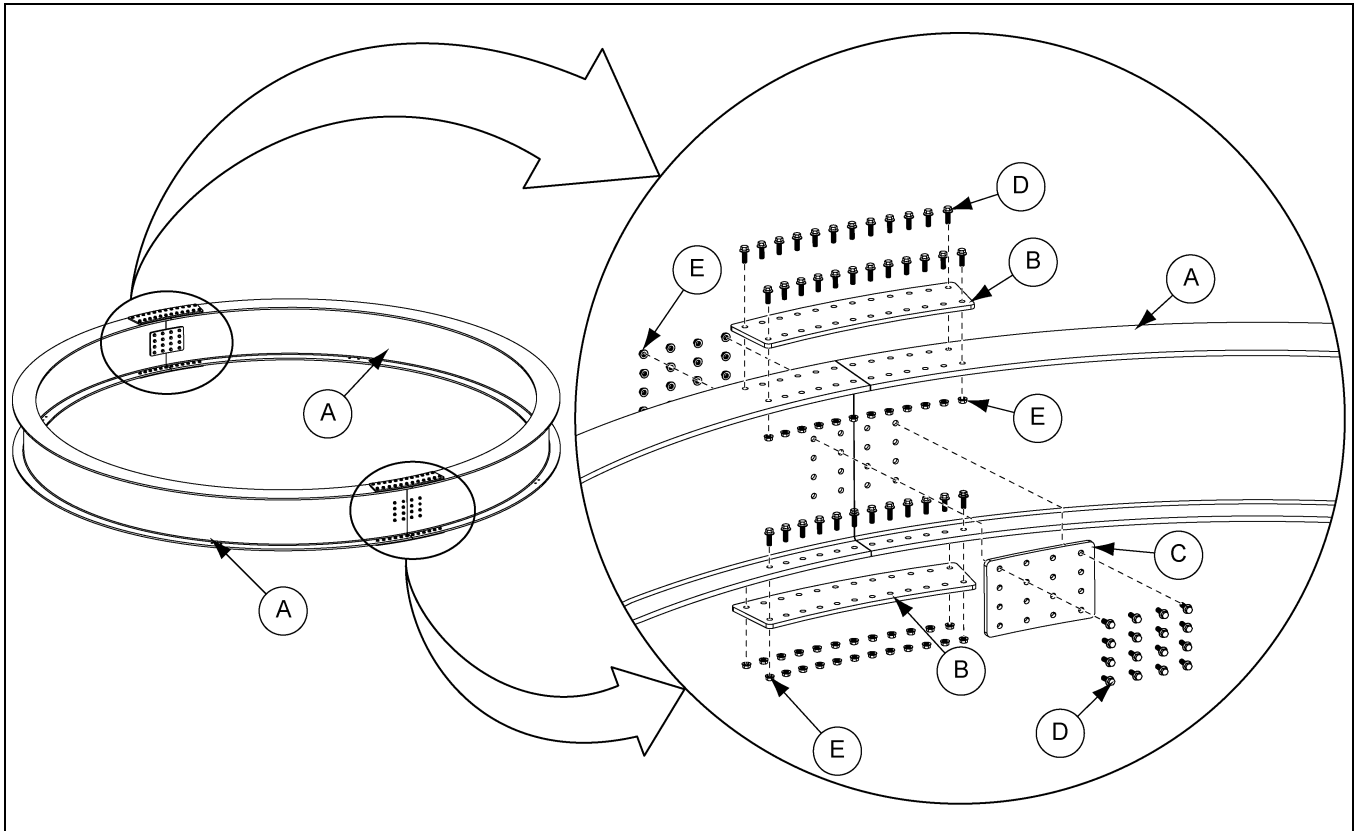

Figure 1
1. Locate each half of the rolled I-beam (A) and install the web splice plate (C) to the inside seam on the rolled I-beam (A) with the flange bolts (D) and the flange nuts (E).
2. Install the flange splice plates (B) to the top and bottom side of the rolled I-beam (A) seams and install the flange bolts (D) and flange nuts (E). (See Figure 1.)